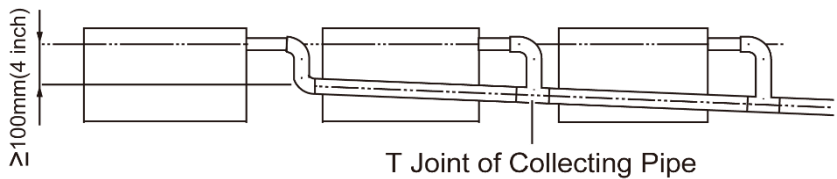

Fig 4.3.4
(4) When connecting several drain pipes, follow the instruction as indicated in Fig 4.3.4.